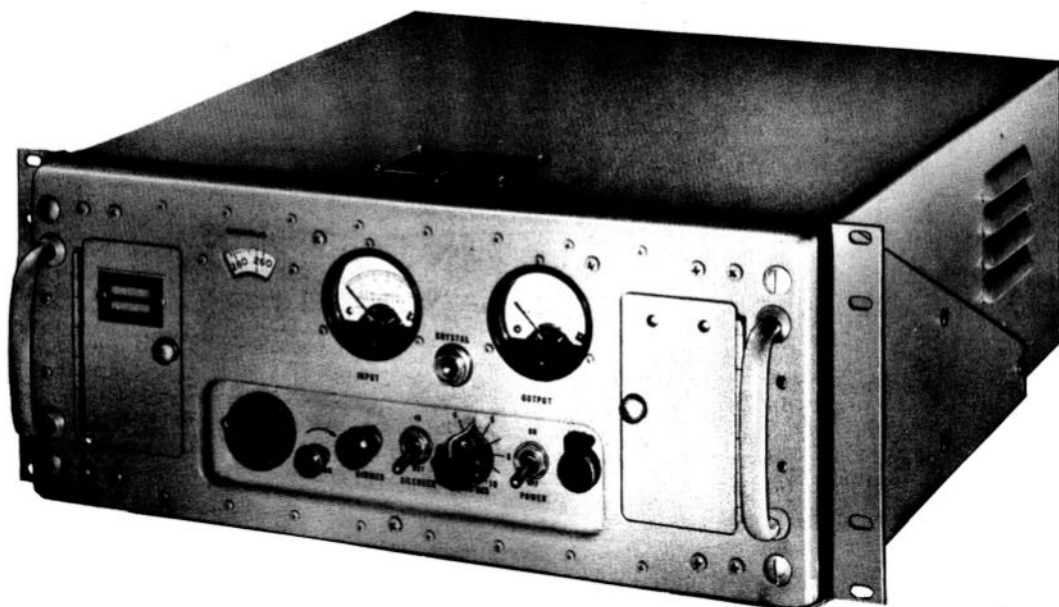

Figure 3-4. Radio Receiver R-482C/URR-35, Relay-Rack Mounting Brackets Attached and Shockmounts Removed
The receiver is shipped with four shockmounts attached, ready for installation on a table or bench. If the receiver is to be installed in a standard relay rack, remove the four shockmounts and attach the mounting brackets to the sides, as shown in figure 3-4.
(2) **RELAY-RACK MOUNTING.**—If the receiver is to be mounted in a standard 19-inch relay rack, it will be necessary to remove the four shockmounts from the bottom of the cabinet and to attach the two angle brackets provided to the sides of the cabinet; see figure 3-4. The shockmounts can be taken off by merely removing the bolts in the corners of their flange plates. The angle brackets are symmetrical in shape and are attached, one to each side of the cabinet, by means of No. 8-32 x 1/2-inch long Phillip's-head machine screws. Five holes in each bracket line up with five tapped inserts in each side of the cabinet;